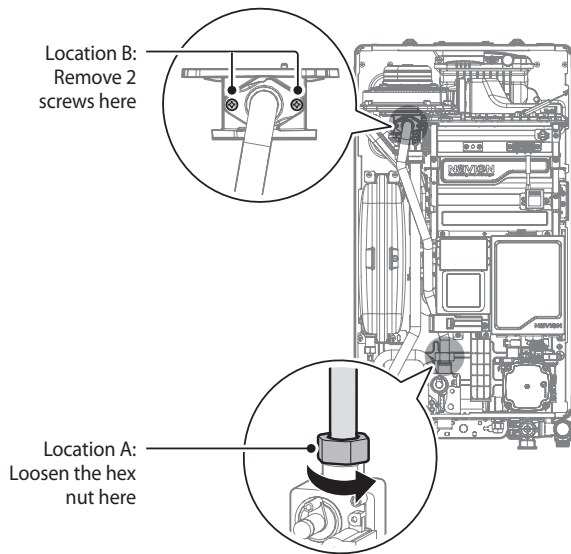

Figure 3. Detaching Gas Inlet Pipe from Gas Valve and Fan Motor Assembly
8. Loosen the hex nut at location A - the connection above the gas valve where it connects to the pipe. See Figure 3 for reference. Once the hex nut is loose, carefully separate the pipe from the gas valve.